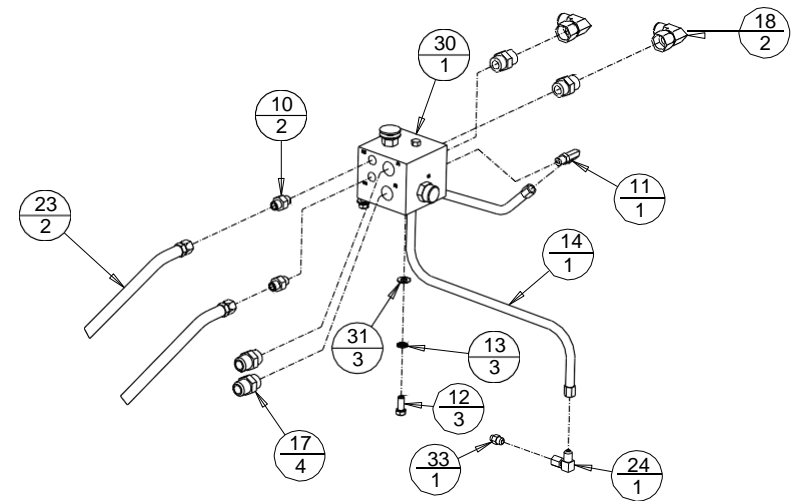

Figure 6.
- Install valve block (Item #30, see Figure 6) on valve mounting bracket (same bracket the hose clamp was removed from in previous step) with hardware provided (Items #12, #13 and #31).
- Remove the case drain plug on the Pick-Up Broom hydraulic motor (located on the opposite side of the motor from the hose ports) and install the small straight adapter and 90° swivel elbow (Items #33 and #24, see Figure 6) and connect the case drain hose (Item #14) that is attached to the valve block. Secure case drain hose to motor hoses with zip ties (not shown).